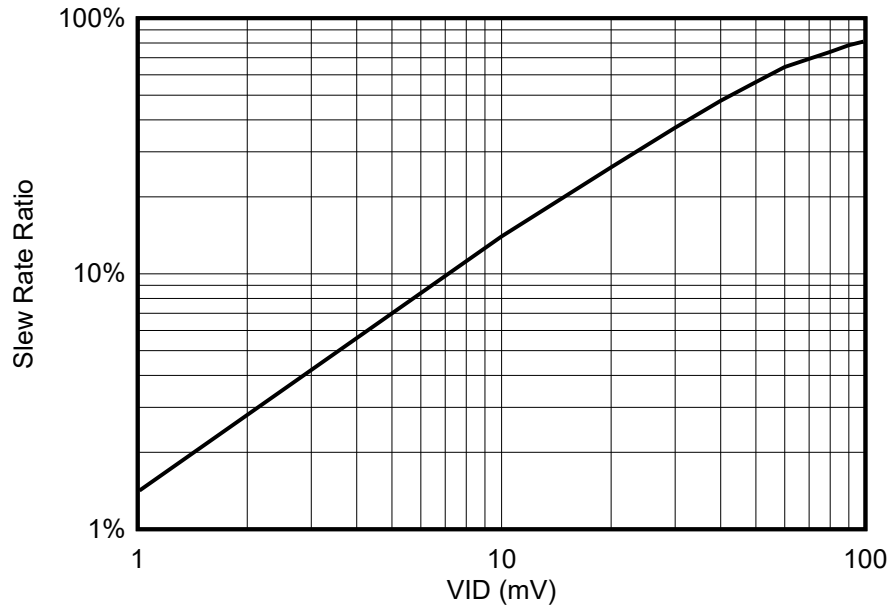
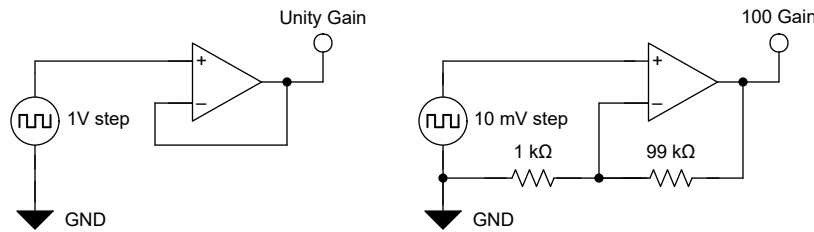

Figure 3-1. CMOS $SR/SR_{[max]}$ Versus V_{ID}
Figure 5-1. Two Schematics With The Same 1-V Output Step
CMOS op amps replace NPN and PNP transistors with NMOS and PMOS transistors. The bias current split is based on voltage difference squared plus a linear factor. Therefore, expect some variation between different CMOS op amps. TLV9001 data is charted in Figure 3-1 up to 100 mV. The curve in Figure 3-1 looks similar to the bipolar example for V_{ID} . Most other CMOS amplifiers show similar behavior. Figure 3-1 is referenced throughout this application note, see Section 4 and Section 5.
For the TLV9001, 100% of the maximum natural slew rate occurs with $V_{ID} \gg 100$ mV. However, the internal bias current (B) and C_C capacitor give $0.5 \text{ V}/\mu\text{s}$ slew rate, not the $2 \text{ V}/\mu\text{s}$ stated in the data sheet. The TLV9001 employs a slew boost circuit to raise the slew rate to $2 \text{ V}/\mu\text{s}$. Figure 3-1 is the natural slew rate based solely on bias current and compensation capacitance with the inactive boost circuit.
The fourth method is to evaluate the SR in small input signal charts. Use the chart with the smallest input signal and highest noise gain. It can be necessary to zoom in to accurately measure the waveform relative to division scaling to get the initial slew rate after any internal capacitive-forward coupling. The time division of the TLV9001 waveform is too long, making the rise and fall appear to be vertical lines, so it is not possible to determine waveform SR with any accuracy. The TLV9001 waveform does not indicate boost or no boost. The LMV831 waveform is a great waveform to use as an indicator because the input is small, NG is high, and scaling makes rise and fall time measurable. The initial slew rate is consistent with the rest of the rising slew rate, so this section can be used for evaluation. Initial SR of the green oval area is $0.25 \text{ V}/\mu\text{s}$. The $10\text{-mV } V_{ID}$ translates to 14% SR[max] using Figure 3-1. The data sheet value ($2 \text{ V}/\mu\text{s}$) scaled by 14% is $0.28 \text{ V}/\mu\text{s}$. The small signal slew rate of the waveform, $0.25 \text{ V}/\mu\text{s}$, closely matches the calculated slew rate, $0.28 \text{ V}/\mu\text{s}$. Based on these calculations, the LMV831 device does not have slew boost.
Figure 5-1 has two schematics that produce a 1-V output step. In the left circuit, the 1-V is amplified by a noise gain of 1. In the right circuit, 10 mV is amplified by a noise gain of 100. In these non-inverting circuits, signal gain and noise gain are equivalent.
Figure 5-1 is the resulting simulation waveform from the Figure 5-1 schematics. The unity gain (black curve) rises at $2 \text{ V}/\mu\text{s}$, which is the same as the data sheet specification. The 100 gain (red curve) has a slower slew rate that continues to decrease as the voltage rises. The initial slew rate for a 10-mV input step, following the Figure 3-1 output, is 14% of the natural slew maximum of $0.5 \text{ V}/\mu\text{s}$, which is $70 \text{ mV}/\mu\text{s}$. By the time the waveform rises half way, the V_{ID} has dropped to 5 mV. Now, the SR is the Figure 3-1 output 7% (of $0.5 \text{ V}/\mu\text{s}$), which is $35 \text{ mV}/\mu\text{s}$.